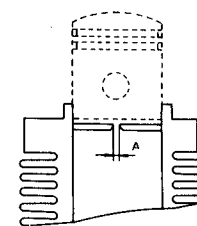

Fig. 16
(3) Clearance of open ends of piston ring (Ring gap) (Fig. 16)
Insert the piston ring into the cylinder skirt horizontally (so that the ring will be square with cylinder wall by using the piston. See Fig. 16) and measure the gap (dimension A as shown in Fig. 16) with a feeler gauge.